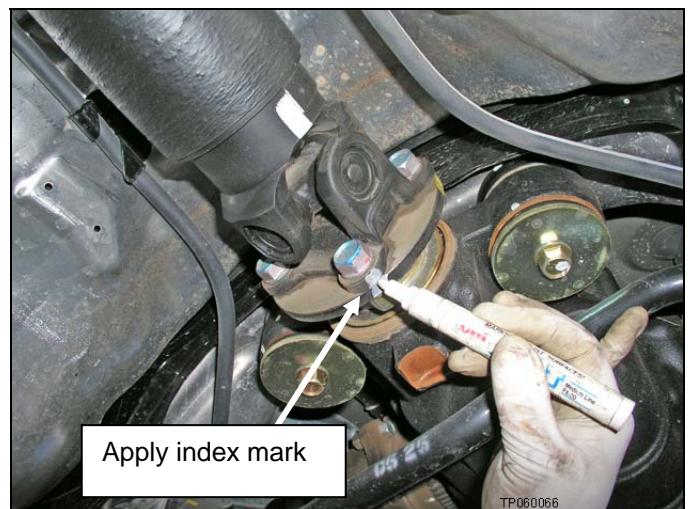

Figure 15
18. Apply an “index” (line up) mark across the propeller shaft and differential pinion flange for correct re-assembly (see Figure 15).